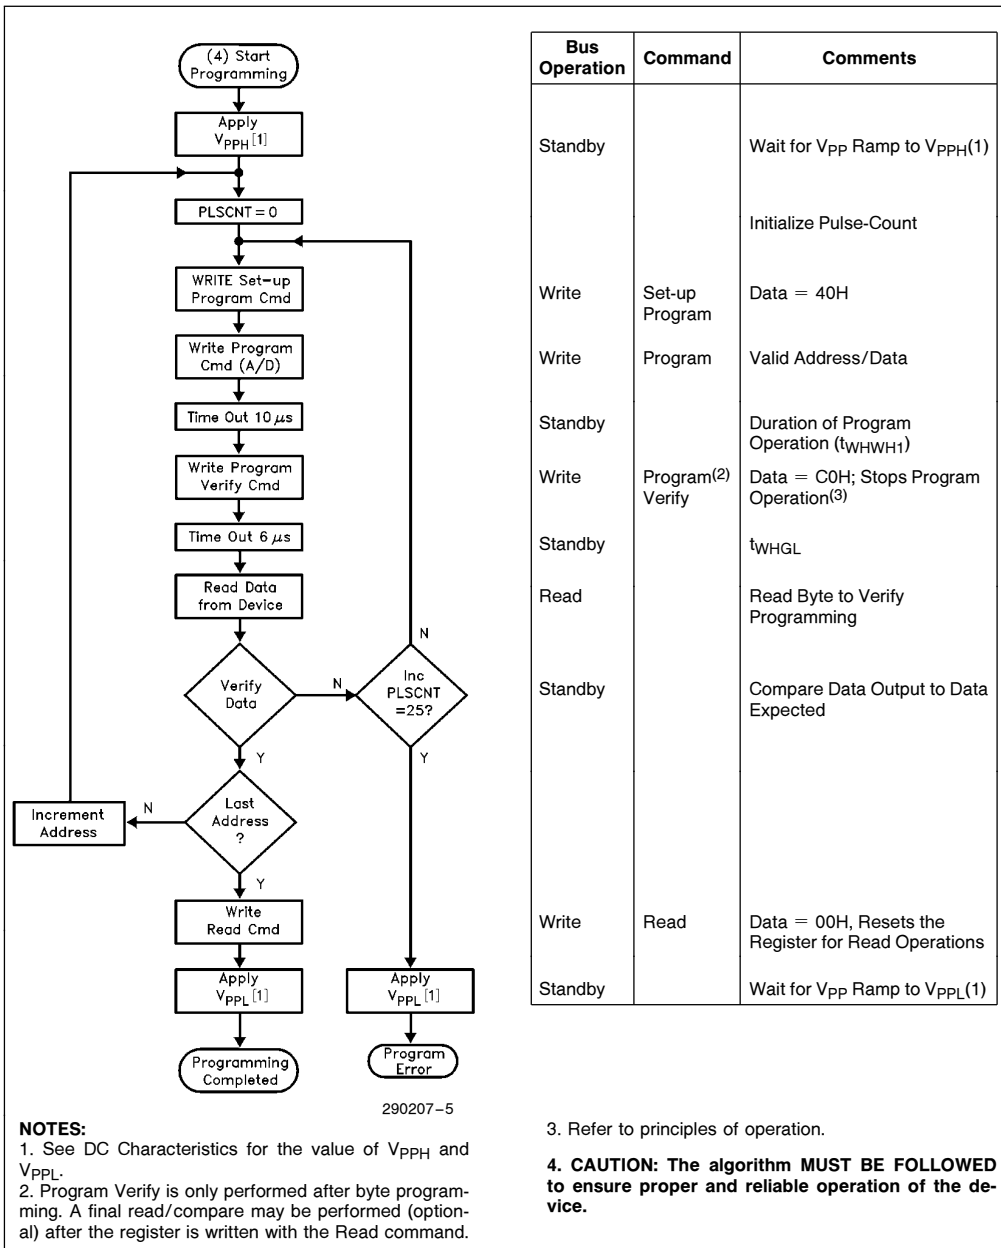

Figure 5. 28F010 Quick Pulse Programming Algorithm
- Figure 5 illustrates the Quick Pulse Programming Algorithm.
The 28F010 applies an internally-generated margin voltage to the byte. A microprocessor read cycle outputs the data. A successful comparison between the programmed byte and true data means that the byte is successfully programmed. Programming then proceeds to the next desired byte location. Figure 5, the 28F010 Quick Pulse Programming algorithm, illustrates how commands are combined with bus operations to perform byte programming. Refer to AC Programming Characteristics and Waveforms for specific timing parameters.
The Quick Pulse Programming algorithm uses programming operations of 10  $\mu$ s duration. Each operation is followed by a byte verification to determine when the addressed byte has been successfully programmed. The algorithm allows for up to 25 programming operations per byte, although most bytes verify on the first or second operation. The entire sequence of programming and byte verification is performed with VPP at high voltage. Figure 5 illustrates the Quick Pulse Programming algorithm.